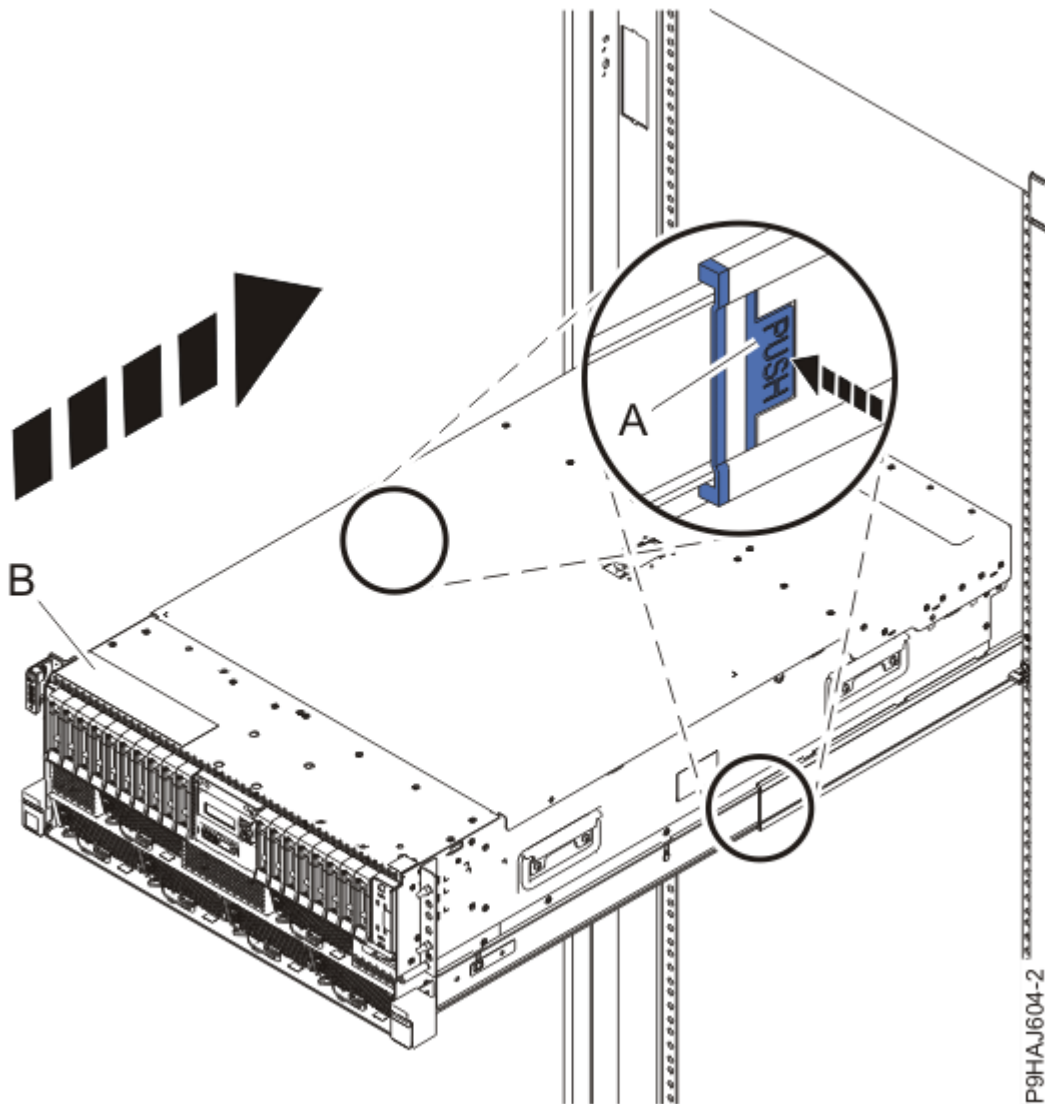

Figure 60. Placing the system into the operating position
3. For a rack-mounted system, unlock the blue rail safety latches (**A**) as shown in Figure 60 on page 81 by pushing them inward.